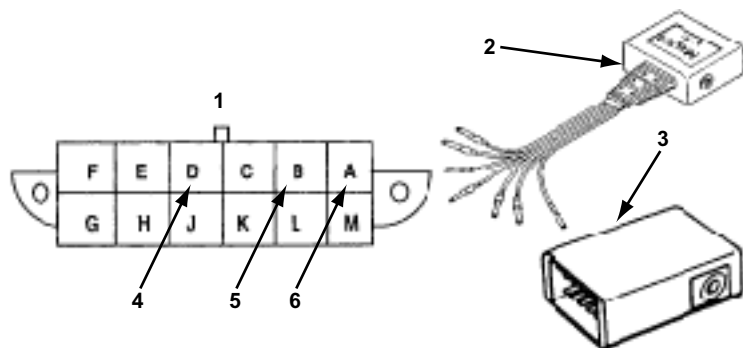

Figure 10-9 12-pin connector and adapters
- Connect the MULTI-1 adapter to the connector (Figure 10-9) or use the GM-1 adapter.